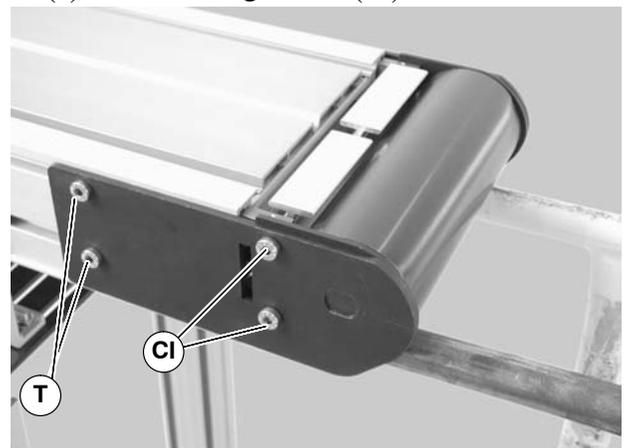

Figure 60
2. On one side of conveyor, loosen the two (2) back fastening screws (T of Figure 60) and remove two (2) front fastening screws (CI).